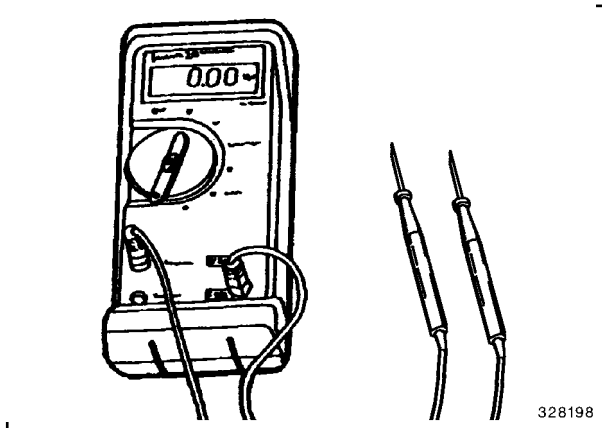

Fig. 3
- as digital devices with numerical read-out (Fig. 3).